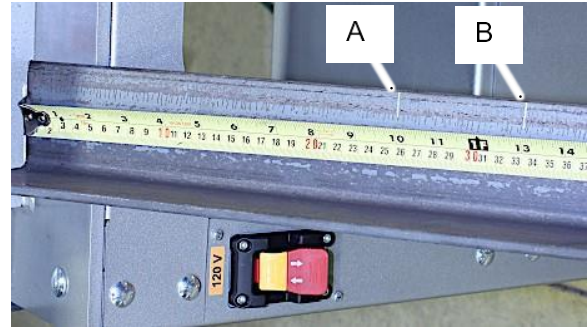

Figure 14
Referring to Figures 14 – 15:
4. Mark the material for the length needed. Example: 10" length wanted (Fig. 14, A). Marked at 13" for alignment (Fig. 14, B)